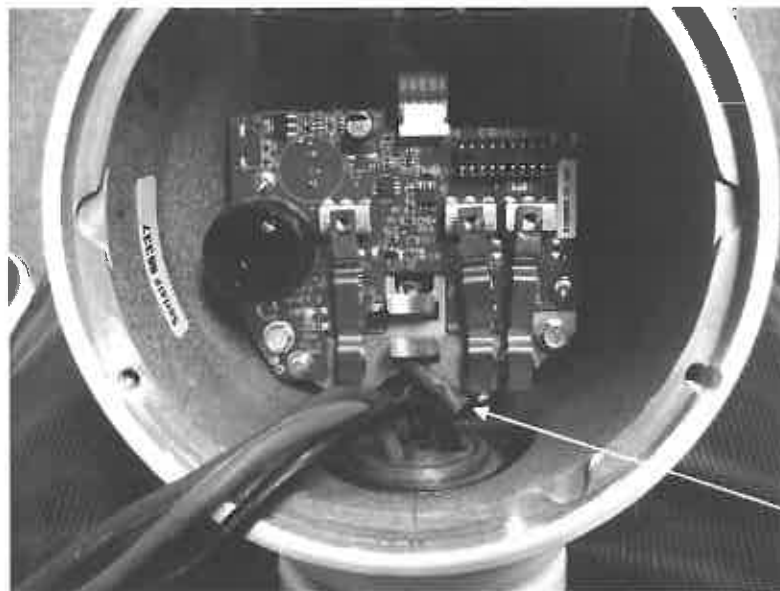

Fig.9
27. Place the circuit in position in the body aligning the two mounting screw holes. Ensure that the insulator pad adheres to the rectifier and is not peeled or bent away from the rectifier. While orienting the circuit in the turbine, try to tuck the ribbon cable down towards the tail of the body to prevent it from being pinched as the circuit is bolted down. See Fig. 9 below for correct orientation.
29. Ensure that the ring terminal at the attachment point of the red brush wire attached to the bottom of the metal rectifier assembly does not touch the body. This will connect battery positive to the turbine case, will short-circuit the turbine, and cause a malfunction. See Fig 9.